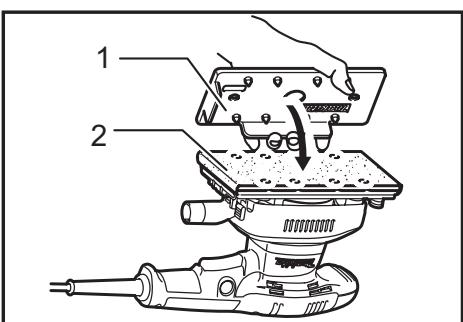

Fig.4
► Fig.4: 1. Punch plate 2. Abrasive paper without pre-punched holes